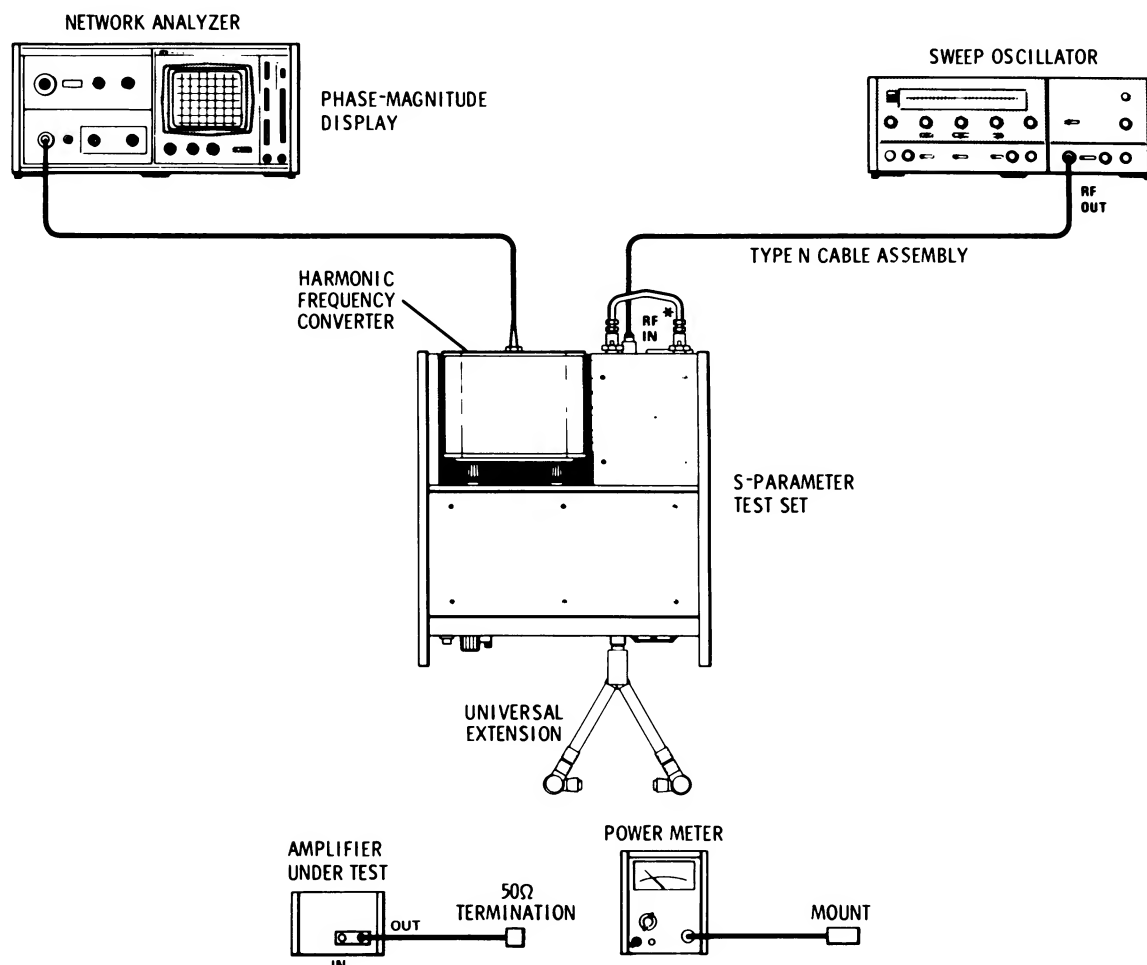

Figure 6. VSWR Test Setup: 0.11 to 1.3 GHz
6. Connect the equipment as shown in Figure 6. Set the sweep oscillator for a leveled CW signal, sweeping from 110 to 220 MHz. Connect the power meter to s-parameter test set INPUT PORT A and set the generator/sweeper's output level for -15 dBm as read on the power meter.